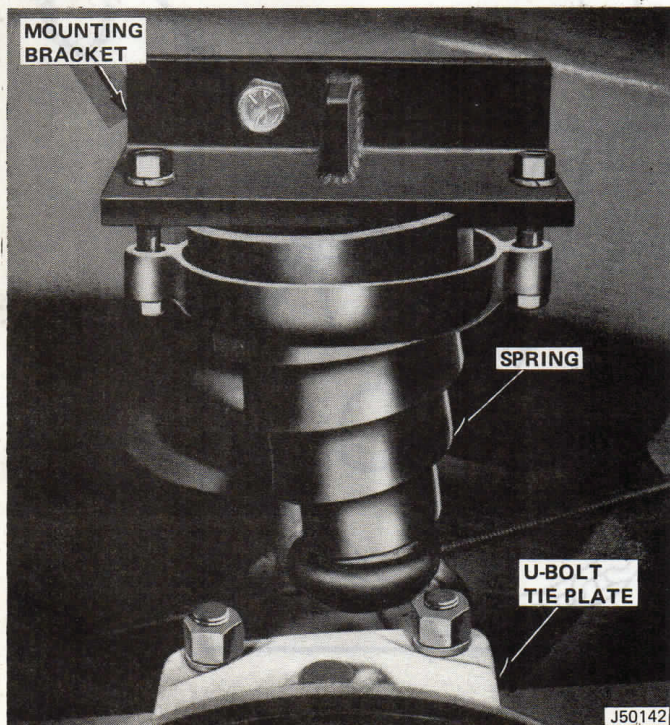

Fig. 8-6 Installed Helper Spring—Truck Models
(1) Position each helper spring mounting bracket on frame centered above U-bolt tie plate on rear axle. Mark locations for bolt holes, centerpunch and drill three 3/8-inch diameter holes (fig. 8-6).